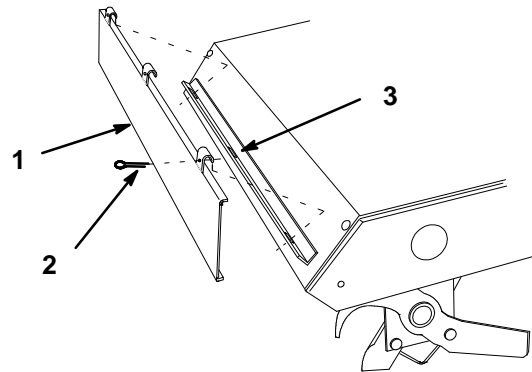

Figure 2
5. Rotate tiller down and hook rear shield into slots at rear of tine shield. Secure with (3) 1" cotter pins (Fig. 2).